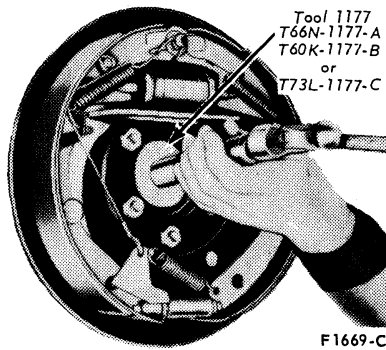

FIG. 4 Installing Rear Wheel Bearing Oil Seal
5. Install the new oil seal with the tools shown in Fig. 4.